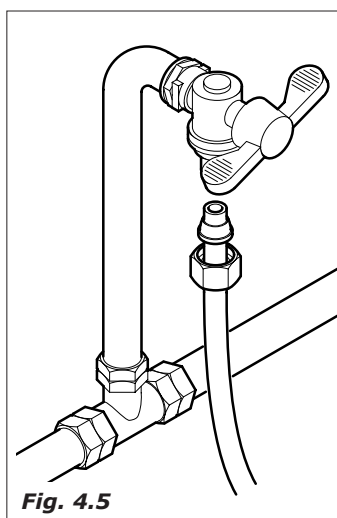

Fig. 4.5
- connect the cock to the distributor, using a pipe in nylon material suitable for food products and suitable for the mains pressure. In the event of the use of a flexible pipe it is necessary to fit the reinforcement bush supplied inside (Fig. 4.5).